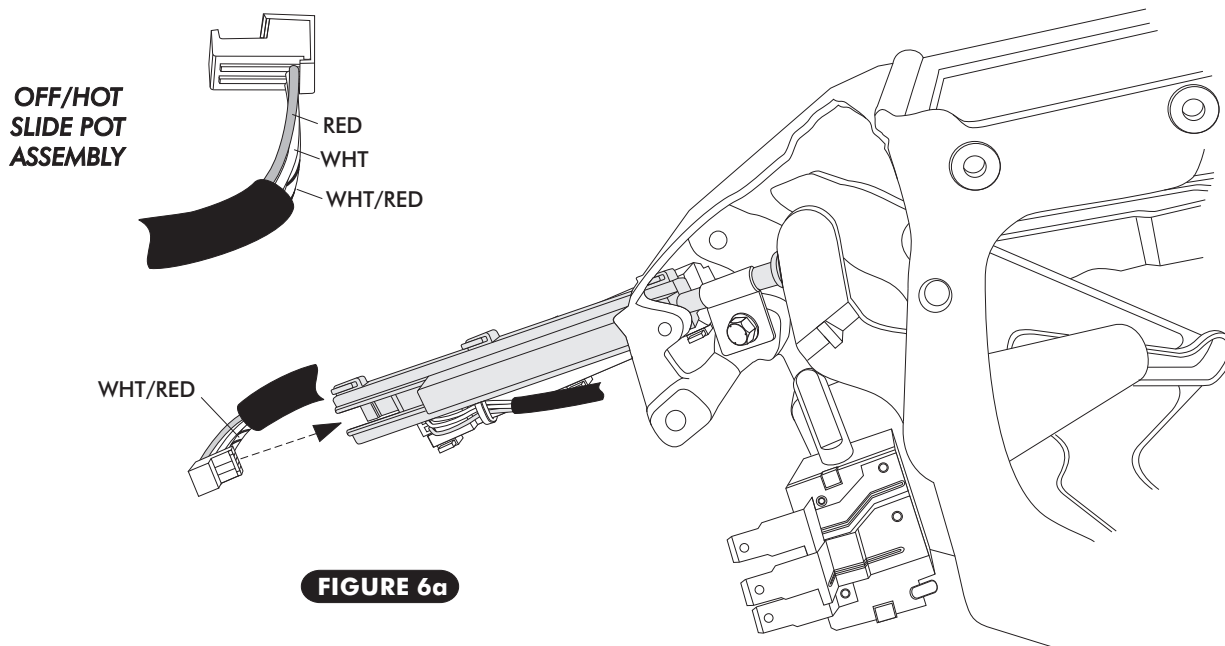

FIGURE 6a
- LOCATE THE CONTROL PANEL WIRE HARNESS, PLUG THE CORRESPONDING WIRES INTO THE CORRECT SLIDE POT ASSEMBLY AS SHOWN IN FIGURE 6a BELOW.